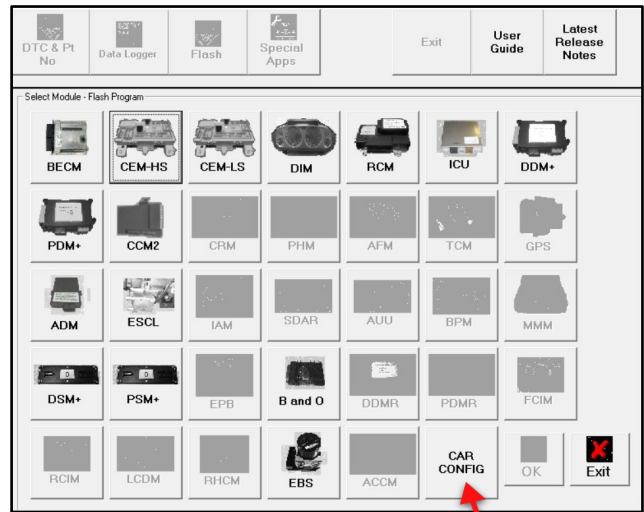

Figure 1
- Click "CAR CONFIG" (refer to Figure 1).